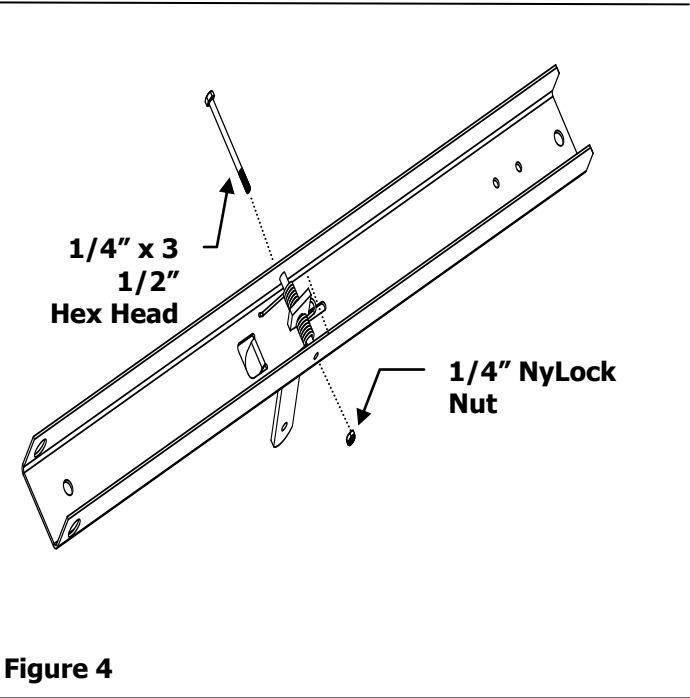

Figure 4
- 4. Slide 1/4 inch x 3-1/2 inch Hex Head Bolt through Spacer and secure with a 1/4 inch Nylock Nut. See Figure 4.